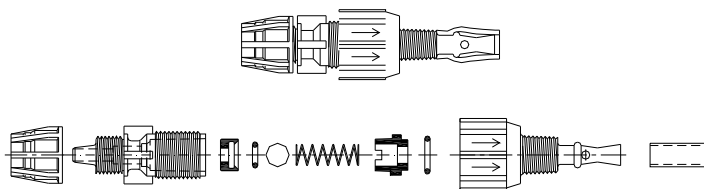

Figure 4: Injector valve
4) Apply Pipe tape to the injection fitting threads and install into piping system. **Do not remove the plastic sleeve on the tip of the fitting; it is a functional part** – see Figure 4.
To install tubing remove the compression fitting's coupling nut and sleeve and slide onto tubing with the sleeve located .38-in (9,5mm) from the tubing end – see Figure 4. Place tubing into fitting and hand tighten the coupling nut. **NOTE:** Immerse tubing in hot water to soften prior to pushing on to fitting. **Hand-tighten only, do not use wrenches. For in line check valve location, do not insert the tube more than .38in into the valve body.**